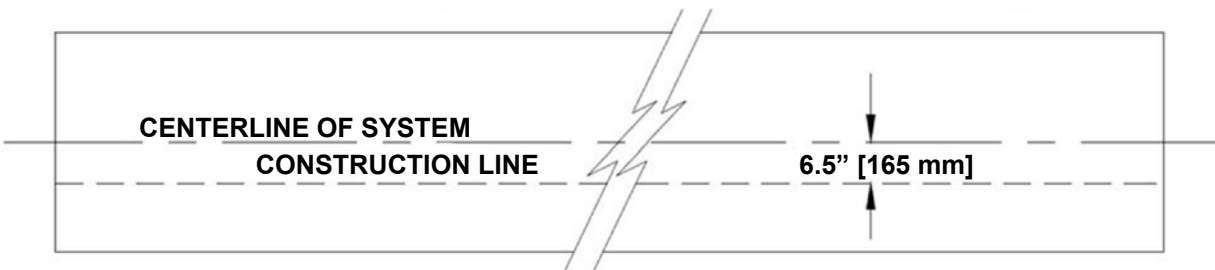

Figure 17
- C. Mark a construction line parallel to the center line and offset 6.5" [165 mm] to one side as shown in Figure 17.